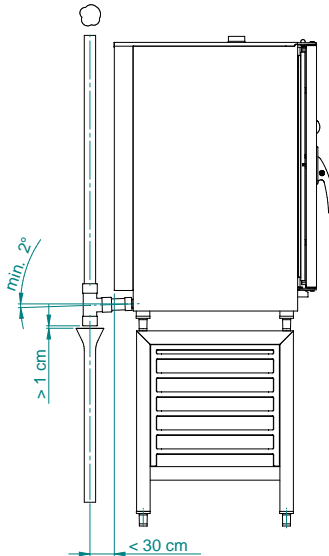

Fig. 2.4
**Important:** The drain system must be installed so that any vapours coming from the open drain do not enter the aeration vents under the appliance. (Fig. 2.4 and 2.4A).